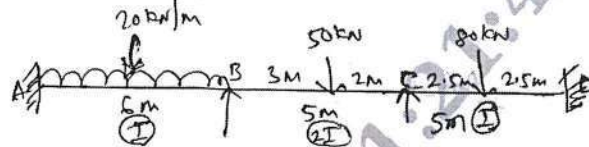

Fig.Q.7
**Q.7** Analyze the continuous beam shown in Fig.Q.7 by using slope deflection method. Draw BMD, SFD and elastic curve. **20 L4 CO4**